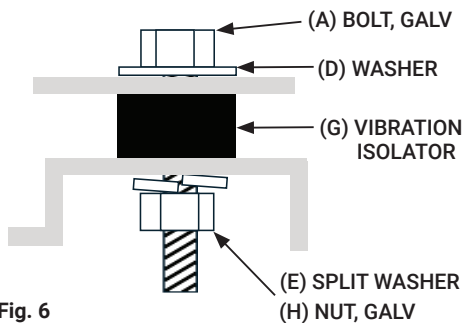

Fig. 6
6. Secure the unit with provided hardware (4), bolt, washer, rubber vibration isolator, mounting rail, split washer, and nut, as shown in Figure 6. Make sure all bolts are tightened to finish installation.